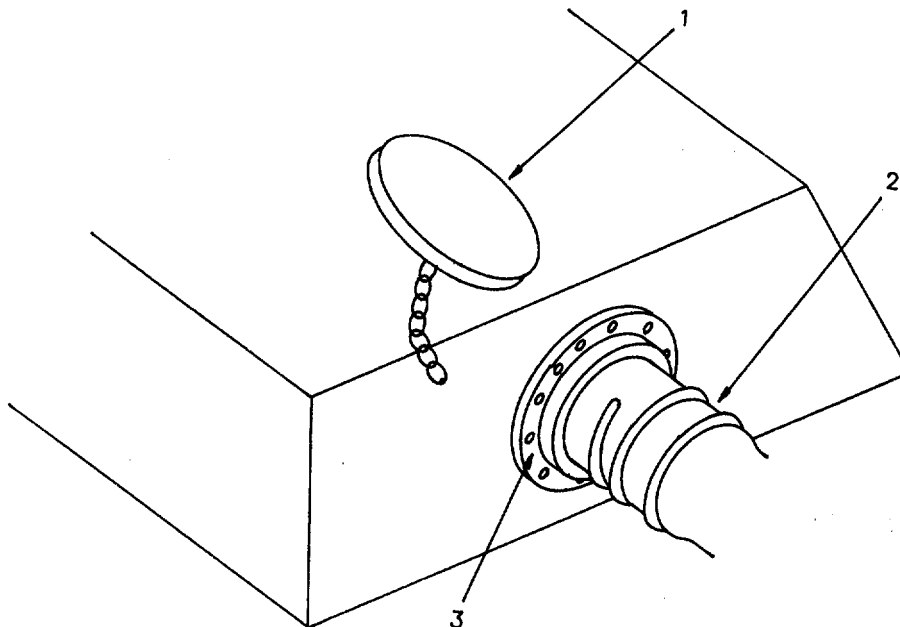

Figure 2-20. Heater Hose and Heater Inlet Adaptor.
- b. Remove heater inlet lid (1, Figure 2-20) and place on top of complete top hood assembly.
- c. Install heater hose (2) directly to heater inlet adaptor (3).